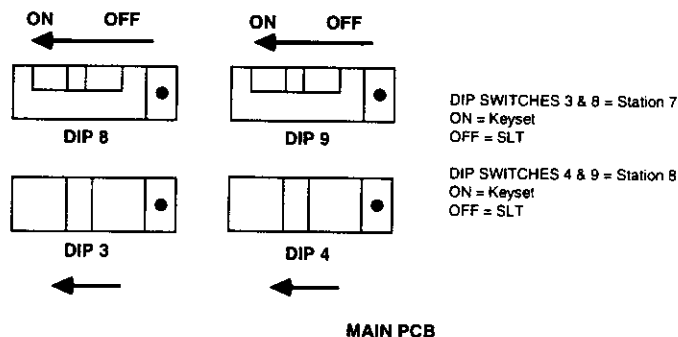

FIGURE 9
4. As Station Number 7 and 8 are available for keyset/slt, make sure that the DIP switches located on the main PCB are set as shown in Figure 9.